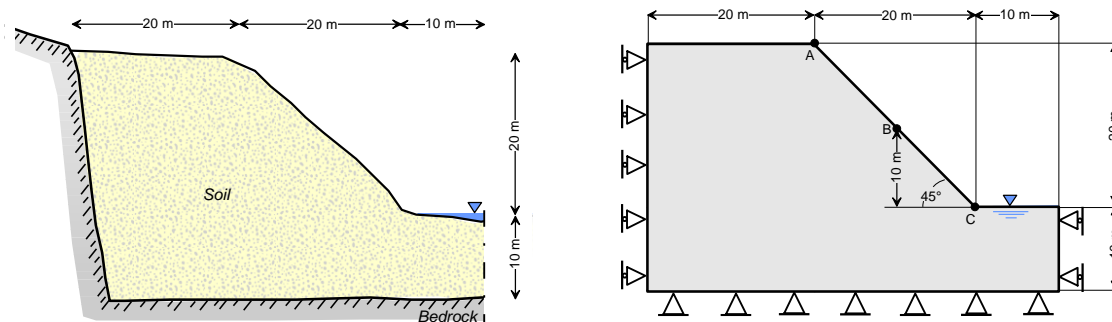

Figure 1: Case to study (a) and problem layout (b).
In particular, it is required to study the stability of the slope reported in Figure 1.a for the following conditions:
The problem can be outlined as shown in Figure 1.b, where a simplified geometry is assumed and kinematic boundary conditions are defined. As initial condition, a water table coinciding with the slope toe can be assumed. The entire slope domain can be thought as composed of a Mohr-Coulomb material with the properties indicated in Table 1.
3. calculate the evolution of pore pressure and saturation degree with time within the domain and plot the displacements of some relevant points (A, B and C in Figure 1.b) versus time;